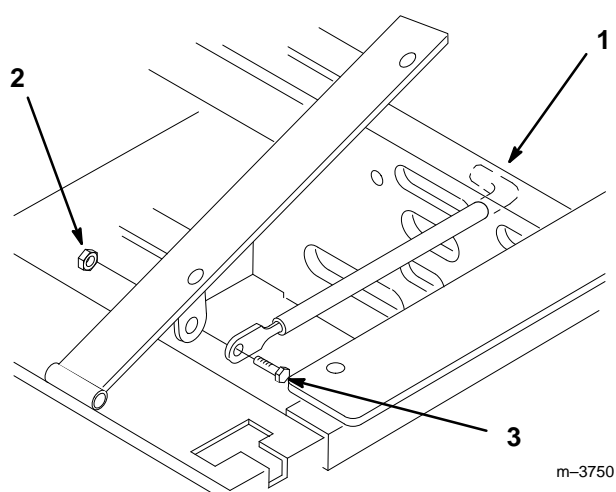

Figure 1
5. Tilt seat up. Remove 5/16" locknut from bolt attaching seat retaining rod to seat frame (Fig. 1).
6. Remove retaining rod from seat and insert the "L" shaped end of the rod into the hole directly above the left-side hydraulic pump mounting hardware (the "L" must be positioned to the right) (Fig. 1).
7. Place the seat retaining rod to the outside of the mounting tab of the seat frame and secure with 5/16-18 x 1" (26 mm) bolt and 5/16" locknut (Fig. 1).